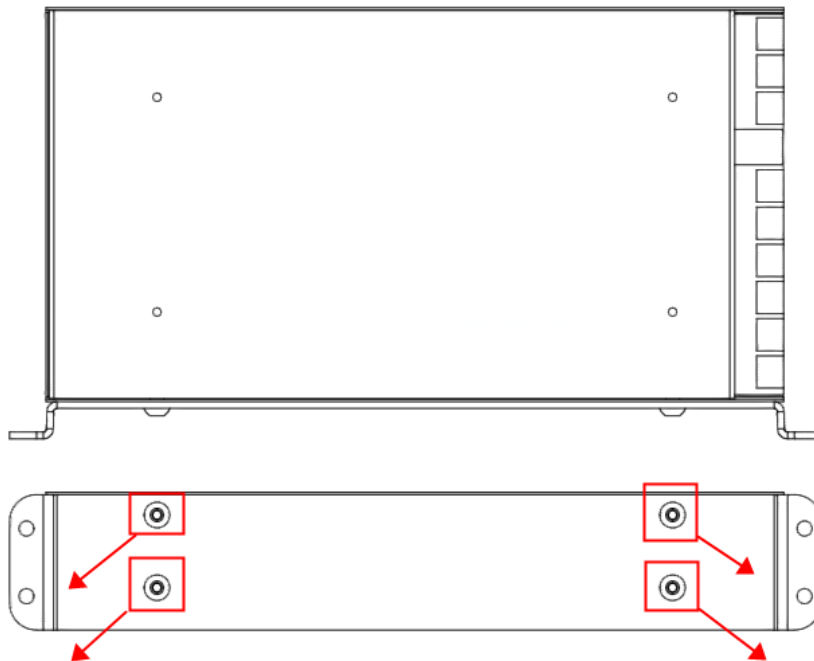

Figure 4-20 Remove the fixing screws of the switching power supply
Step 4 Use an Allen wrench to unscrew and remove the four fixing screws on the 24V switching power supply, and take out the switching power supply, as shown in Figure 4-20.